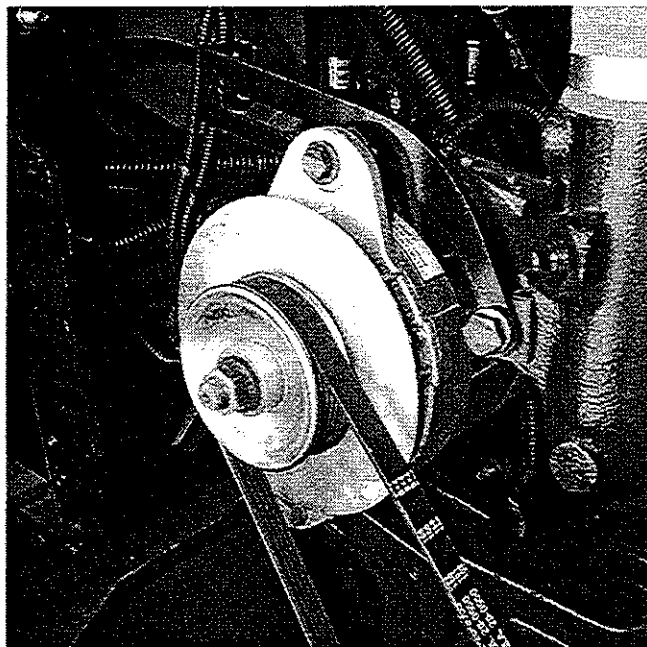

Figure 1—Alternator
1. Remove all drive belts. (See Figure 1—Alternator.)